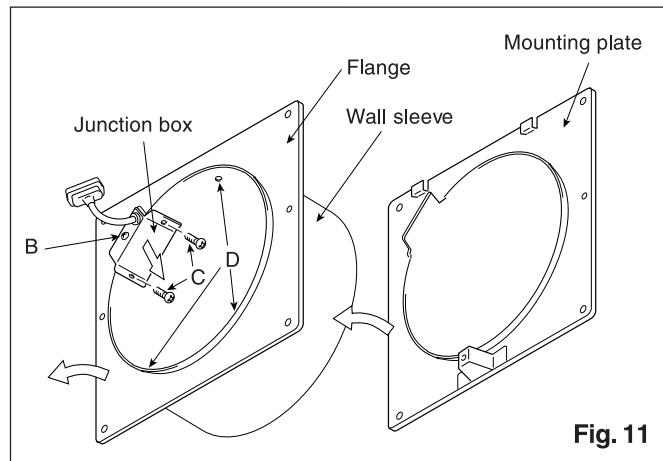
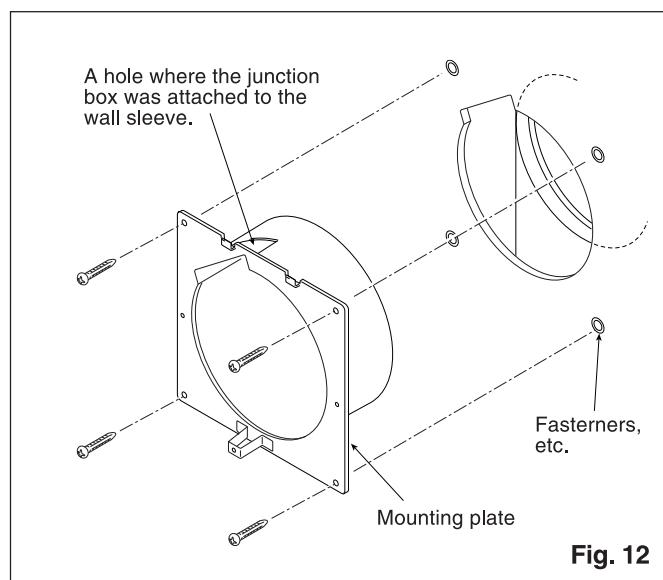

Fig. 11
Fig. 12
3. Remove the junction box from the wall sleeve by removing two screws (C). (Fig. 11)
4. Remove the junction box cover by removing screw (B).
5. Remove the screws (D) and replace the wall sleeve flange with the mounting flange. (The mounting plate face should align with the end of the wall sleeve which is protruding from indoor side.)
6. Attach the wall sleeve to the wall with supplied screws (Screw I). (Fig. 12)